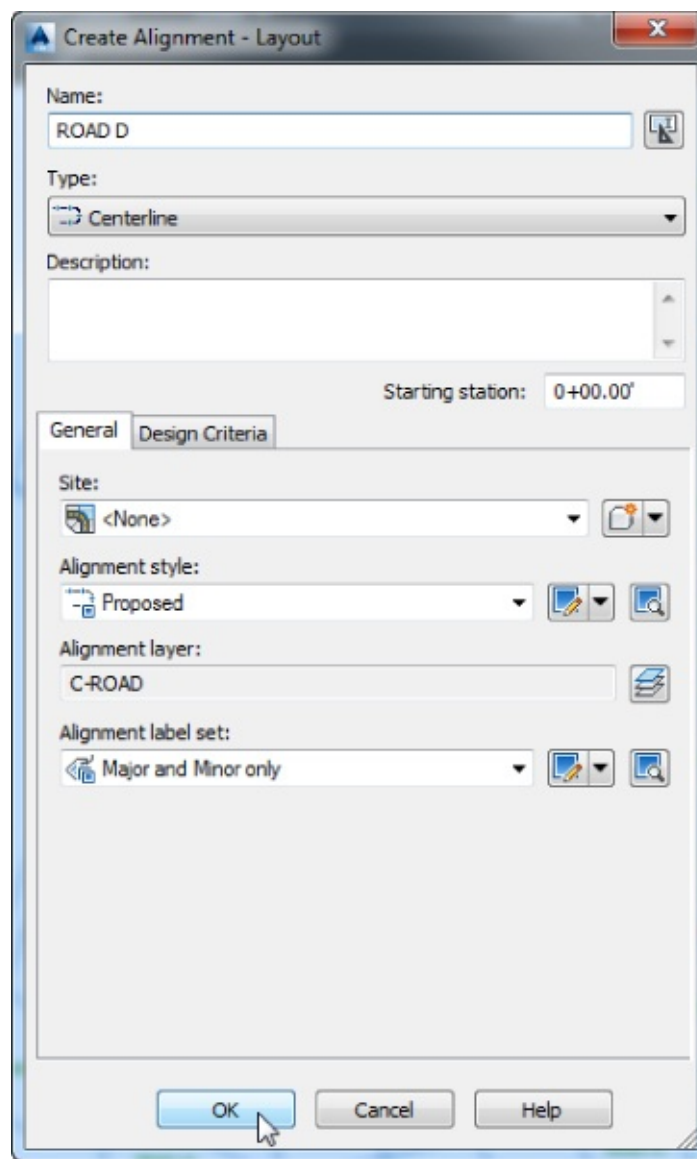

Figure 6.8 Create Alignment - Layout dialog
5. Click OK to accept the other settings shown in Figure 6.8.